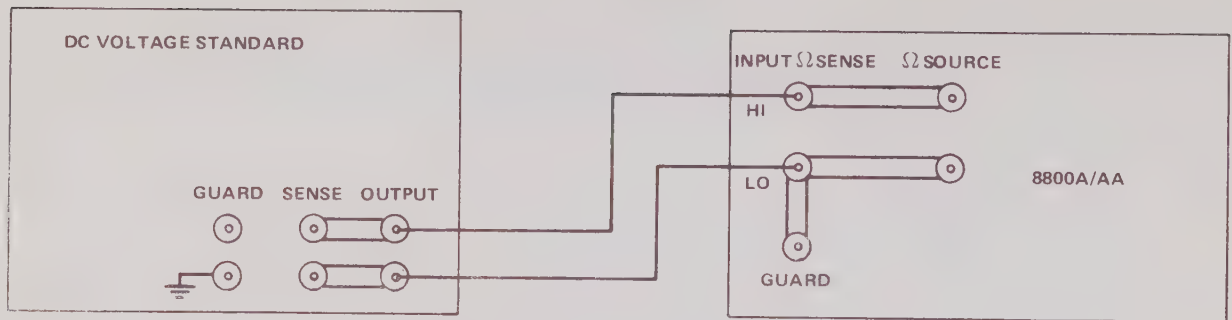

Figure 1. DC VOLTAGE TEST EQUIPMENT CONFIGURATION
- f. Connect the calibration equipment as shown in Figure 1 for voltage inputs to the 8800A/AA.
- af. Connect the calibration equipment as shown in Figure 1.